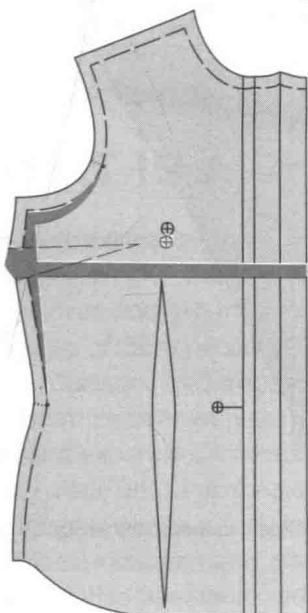

FIGURE 7.16 A dart has
2. The original style of the garment must be retained, unless a change was intentional (see Figure 7.16).